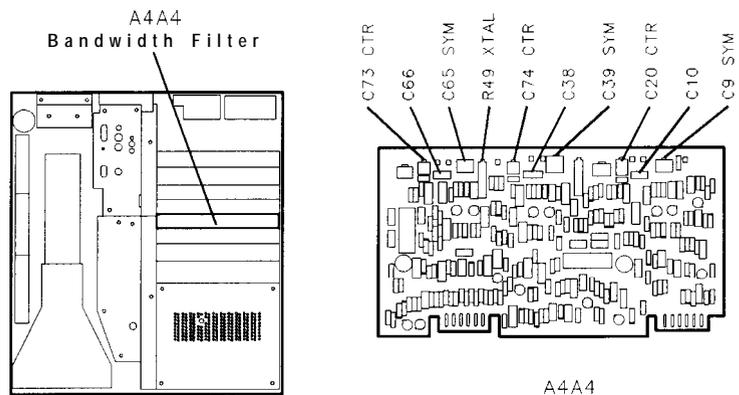

Figure 3-42.
18. Adjust A4A4C20 CTR to center signal on center graticule line. Adjust A4A4C9 SYM for best symmetry of signal. See Figure 3-42 for location of adjustments. If unable to adjust SYM for satisfactory signal symmetry, increase or decrease value of A4A4C10. Refer to Table 3-3 for range of values.
20. Adjust A4A4C74 CTR to center signal on center graticule line. Adjust A4A4C39 SYM for best symmetry of signal. See Figure 3-42 for location of adjustments. If unable to adjust A4A4C39 SYM for satisfactory signal symmetry, increase or decrease value of A4A4C38. Refer to Table 3-3 for range of values.
22. Adjust A4A4C73 CTR to center signal on center graticule line. Adjust A4A4C65 SYM for best symmetry of signal. See Figure 3-42 for location of adjustments. If unable to adjust A4A4C65 SYM for satisfactory signal symmetry, increase or decrease value of A4A4C66. Refer to Table 3-3 for range of values.
26. Adjust A4A4R49 XTAL to align markers on display. MARKER A level should indicate 1.00 X. See Figure 3-42 for location of adjustment.